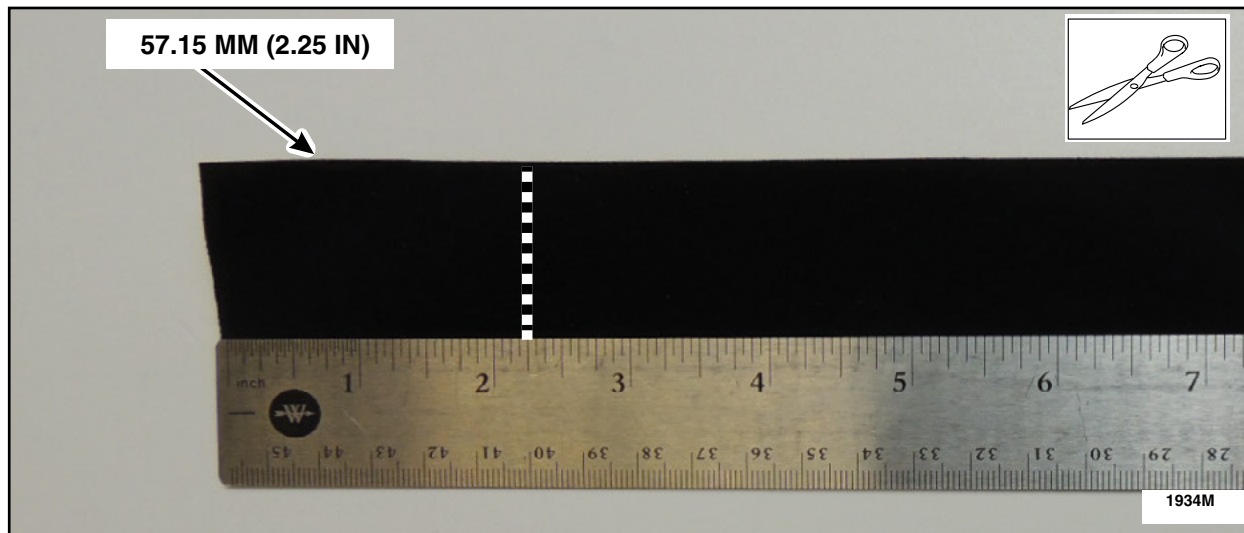

FIGURE 4
5. Measure and cut one piece of flocked tape 57.15 mm (2.25 in) in length. See Figure 4.